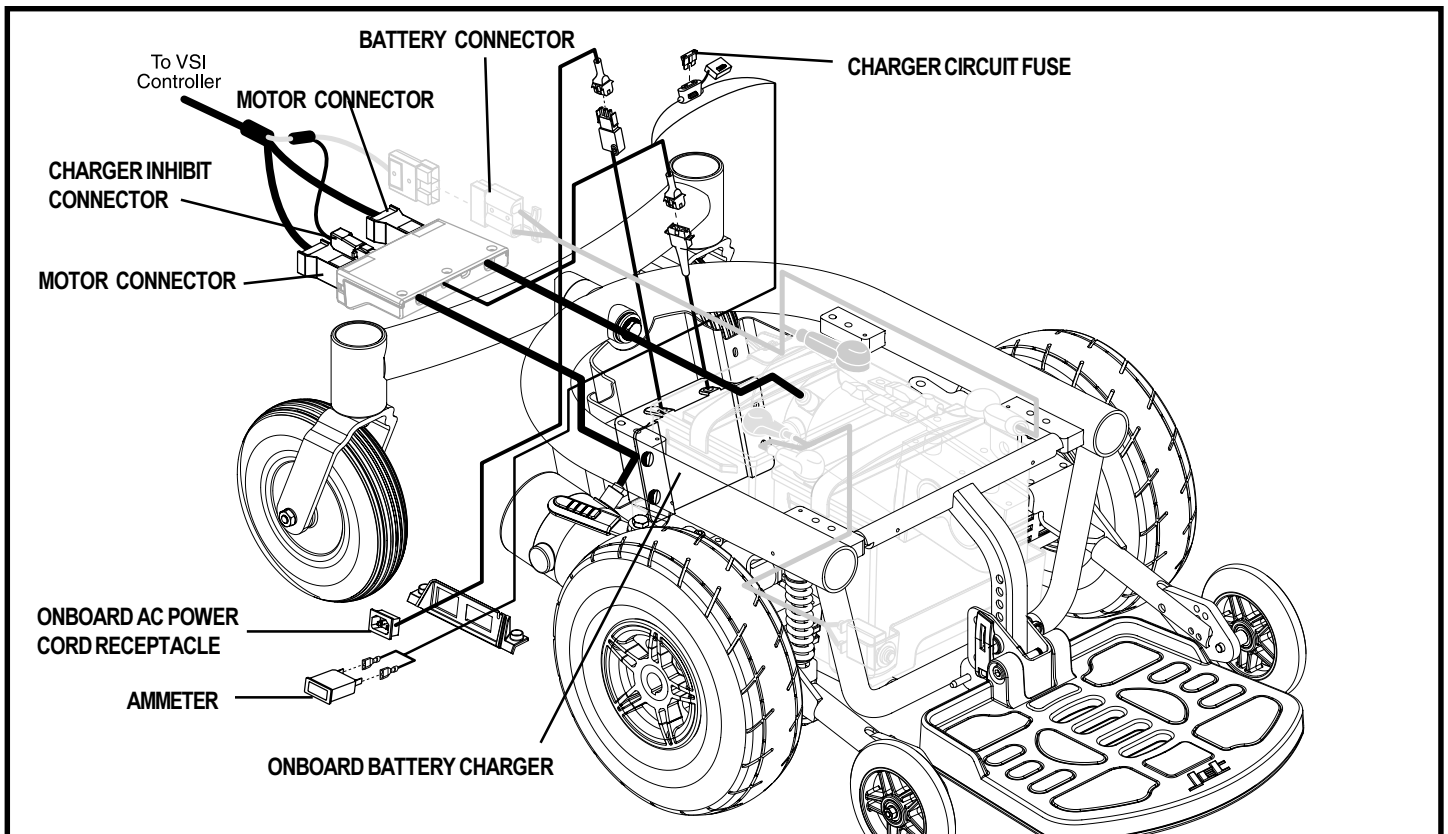

Figure 6. Jet 10 Ultra Electrical Components
The electrical components are located on the power base. The ammeter and the onboard AC power cord receptacle are located on the right side of the power base. The main circuit breaker is located on the front of the battery tray. The controller connector and the motor connectors are located on the power pod, inside the power base. See figure 6.
Battery Connector: This is where the controller connects to the batteries. See figures 6 and 26.
8. Plug the motor connectors, the charger inhibit connector, and the battery connector into the power pod. See figure 6.
3. Disconnect the controller from the power pod. See figure 6.